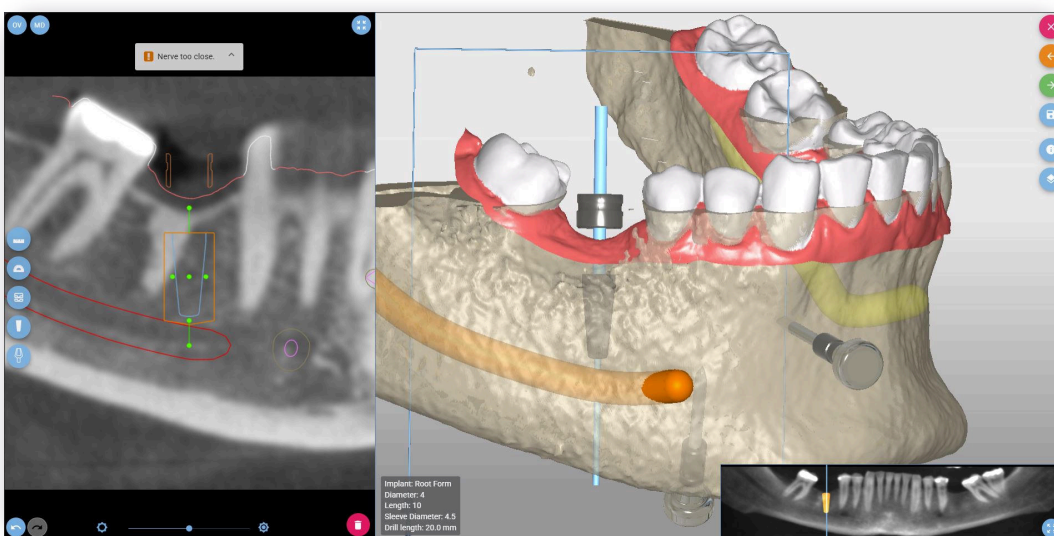

Figure 46: The implant may penetrate the nerve canal.
- The implant may penetrate the canal of the alveolar nerve (Figure 46).